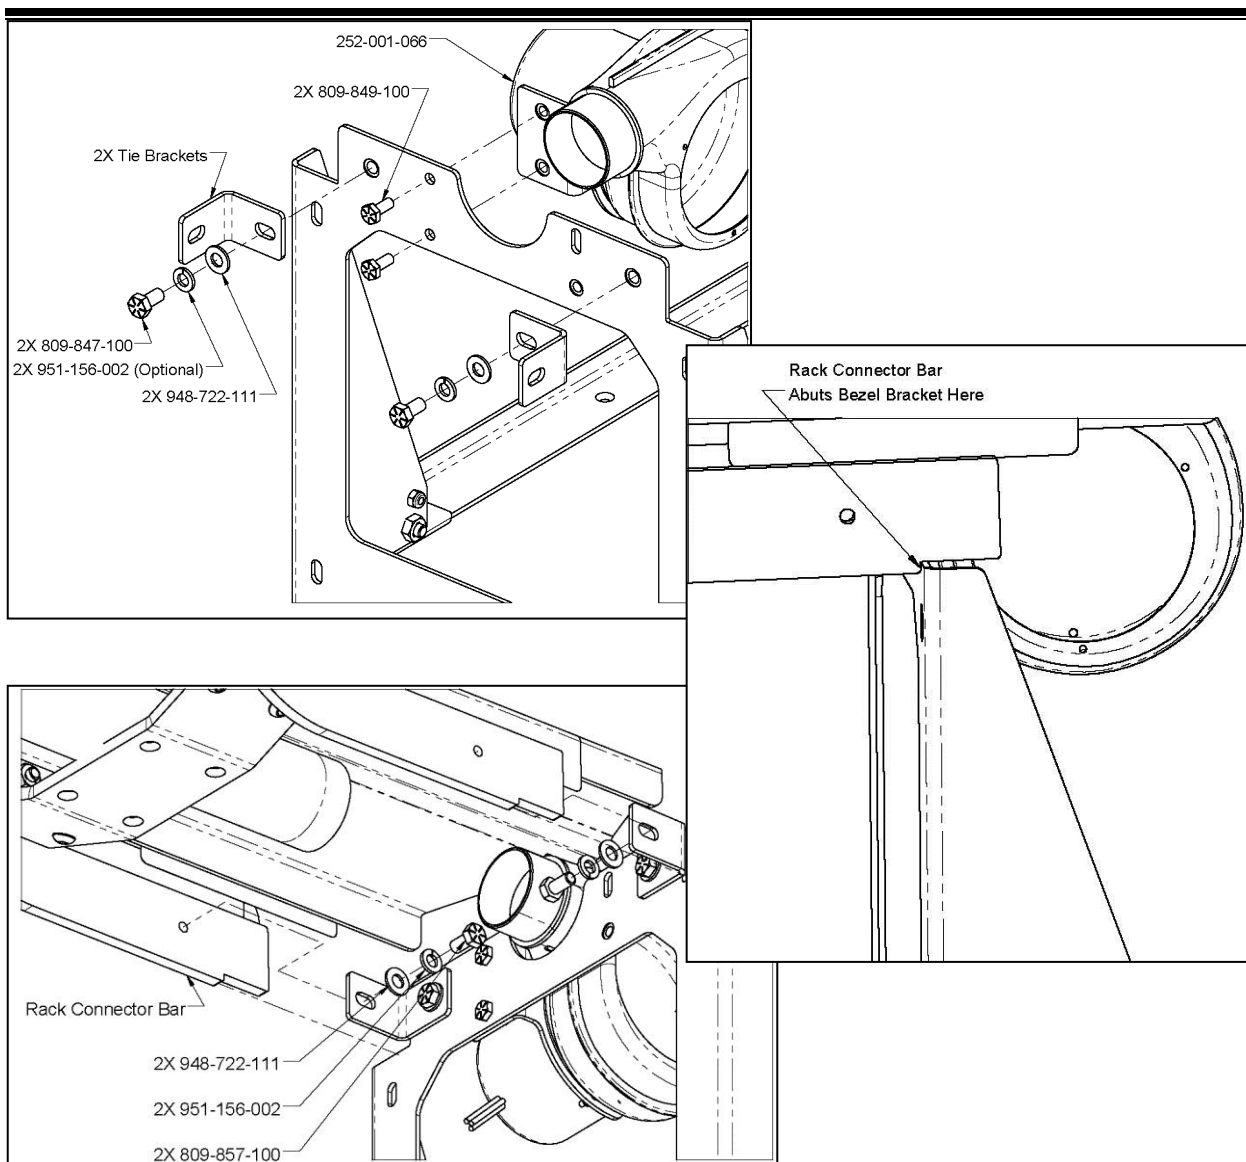

Figure 16, Rack to Ball Lift Attachment
5. It is recommended that two people upright the rack and carefully place it into position on the approach and the bezel support bracket. The notch in the rack bar connectors should rest on the edge of the corner notch of the bezel support bracket. Push toward the lift until the notch of the connector bar comes in contact with the face of the bezel support bracket as shown in Figure 16.
6. Loosen the screws holding the tie brackets and install two (2) additional screws through the tie brackets and into the rack connector bars. Leave all four (4) screws slightly snug for adjustment.